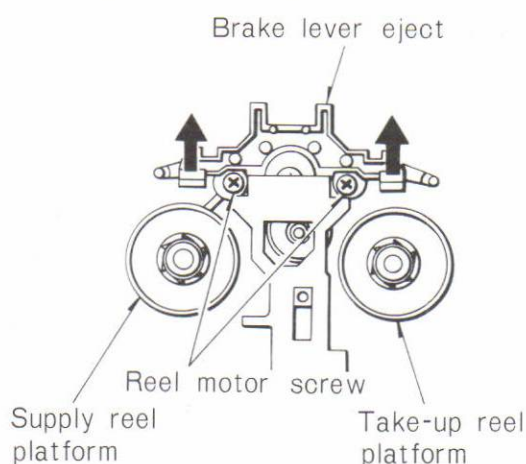

Fig. 4
- 1) Remove the 2 screws pushing the lever for brake release in the direction of the arrow. (See Figure 4)